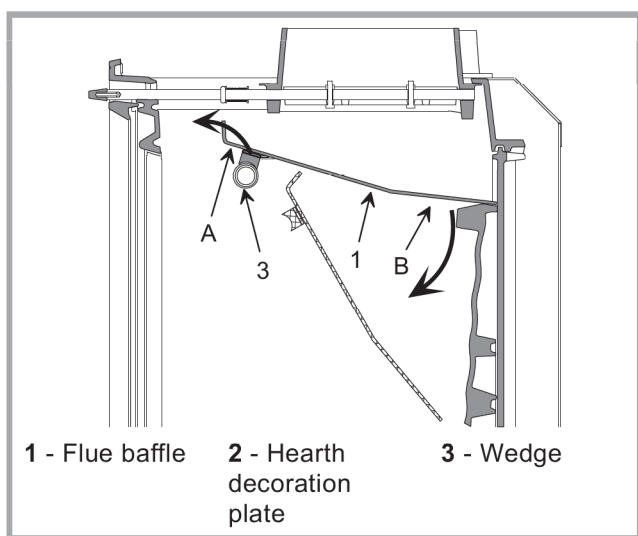

Figure 7 - Removing the flue baffle
Removing the flue baffle : figure 7
- Director the deflector into the stove as indicated in figure 7.